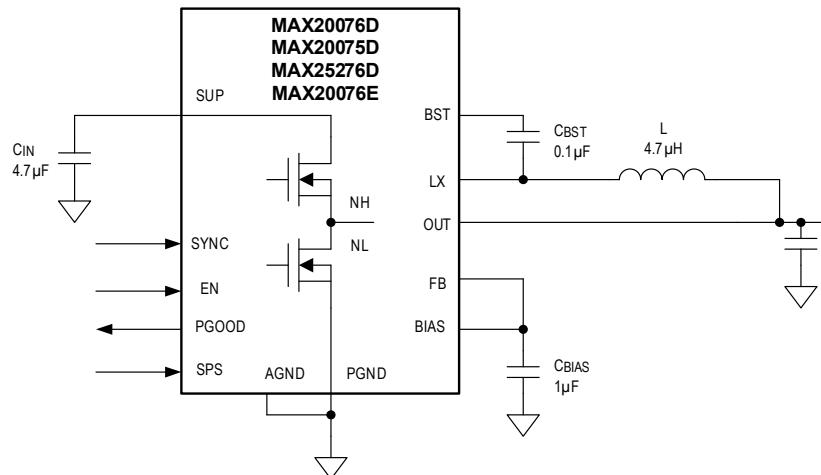
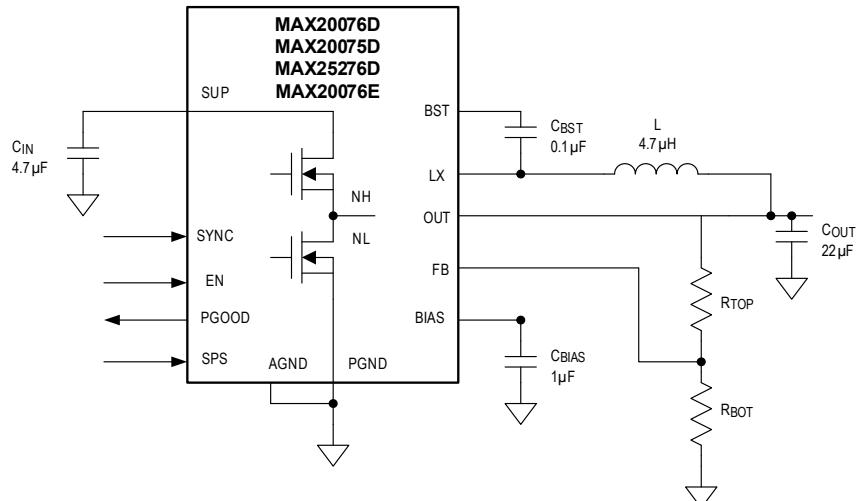

Figure 2. MAX20075D/MAX20076D/MAX20076E/MAX25276D Application Circuit with Fixed Output Voltage
Figure 3. MAX20075D/MAX20076D/MAX20076E/MAX25276D Application Circuit with External Resistor-Divider to Set Output Voltage
- 1) The input capacitor (4.7 $\mu$ F, see Figure 2, Figure 3, and Figure 4) should be placed right next to the SUP pin. Since the MAX20075D/MAX20076D/MAX25276D operate at 2.1MHz switching frequency, this placement is critical for effective decoupling of high-frequency noise from the SUP pins.